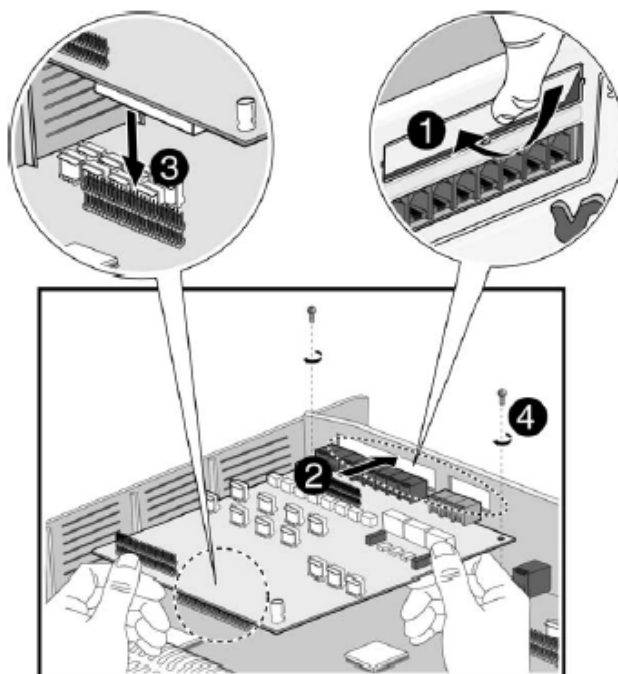

Figure 4-1 Board Installation
- Before inserting the board, remove the dummy slot as shown in #1 of Figure 4-1.